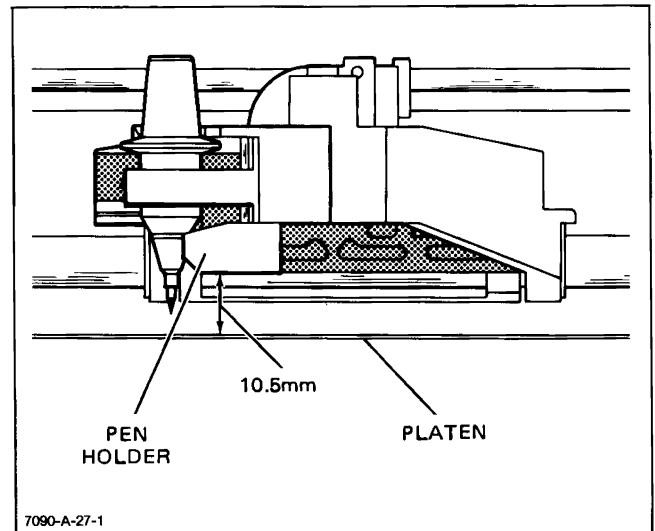

Figure 3-2. Measuring Pen Height
- d. Using the 100 mm ruler, measure the distance from the platen to bottom of pen holder. It should be 10.5 mm. See Figure 3-2.